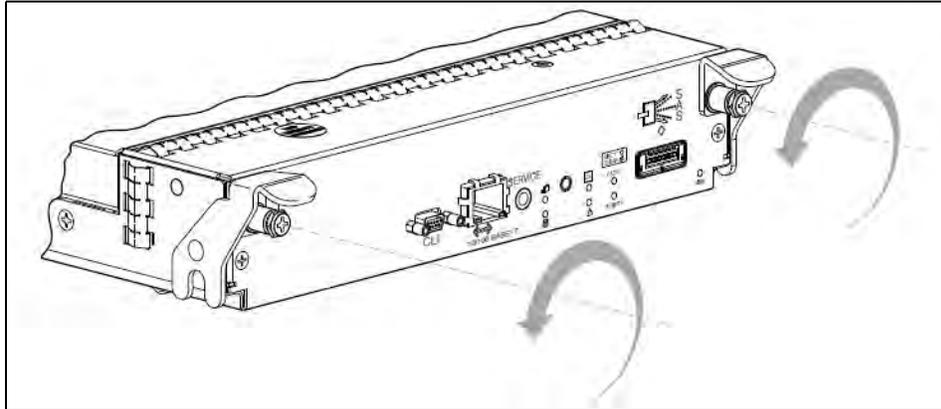

Figure 5.46 - Disengaging a Controller Module
3. Turn the thumbscrews counterclockwise until they disengage from the module (**Figure 5.46**).